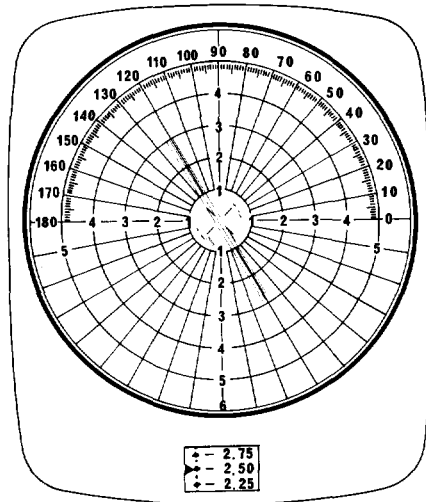

Fig. 5
(1) S diopter power
- Set the lens on the lens table and rotate the diopter measuring knob starting from 0.00 D position until an oval-shaped image of the target is produced on the screen. Rotate the target rotation wheel (10) to align the shorter crossline which may look blurred to the longer oval axis. Then, the shorter crossline looks clearer. Rotate the diopter measuring knob and the target rotation wheel further until the shorter crossline looks most clear. Read the diopter scale window to obtain the S diopter power. (Fig. 5)
Example of Fig. 5: S -2.50 D